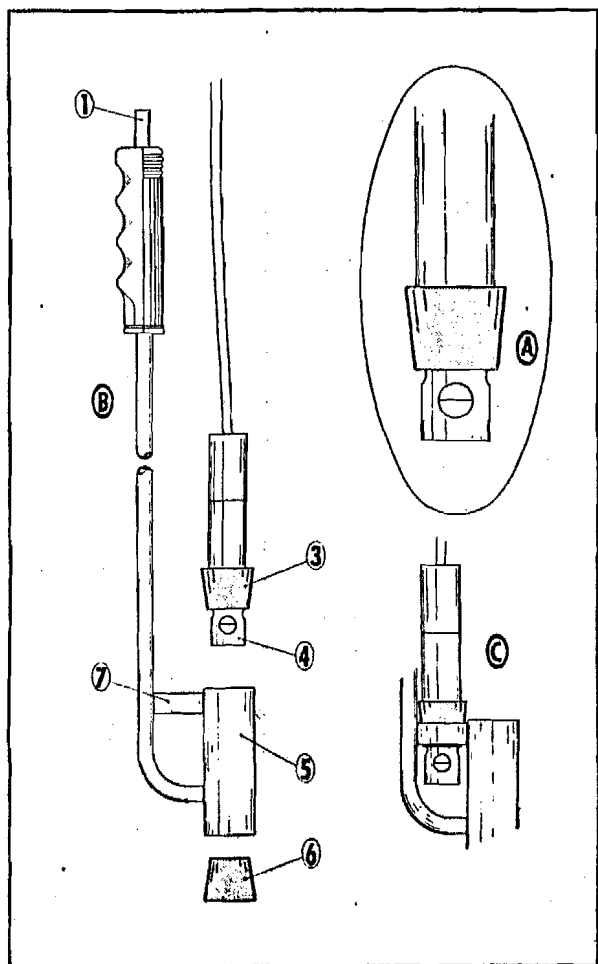

FIGURE 9
The YSI 5075 Calibration Chamber is an accessory that helps obtain maximum accuracy when air calibrating in the field and is also a useful tool when measuring in shallow water (less than 4 ft). As shown in Figure 9, it consists of a 4-1/2 ft. stainless steel tube (1) attached to the calibration chamber (5) and the measuring ring (7). For calibration insert the solid rubber stopper (6) into the bottom of the calibration chamber (5). Push the probe (4) through the hollow rubber stopper (3) as shown in Detail A. For maximum accuracy wet the inside of the calibration chamber (5) with fresh water. This creates a 100% relative humidity environment for calibration. Insert the probe-stopper assembly in the top of the calibration chamber.